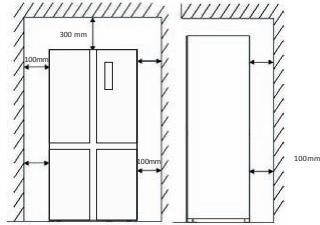

Fig.1
- Ensure sufficient spacing is provided for the appliance to be installed. Leave space on both sides (100cm), back (100cm) and above the appliance (300cm) to ensure proper ventilation and door opening. See fig. 1&2